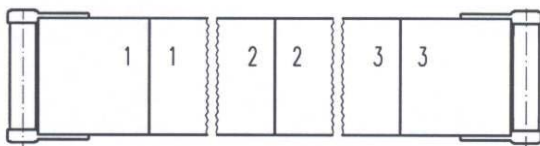

Figure 2: Putting together the individual parts
- Put together the junction points marked with the same numbers (figure 2).